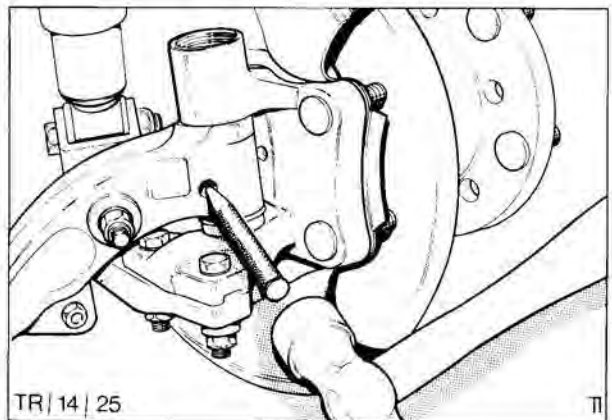

Fig. 25. Refitting cotter pin
16. Align cut-out in kingpin with hole in axle beam and refit cotter pin, Fig. 25.